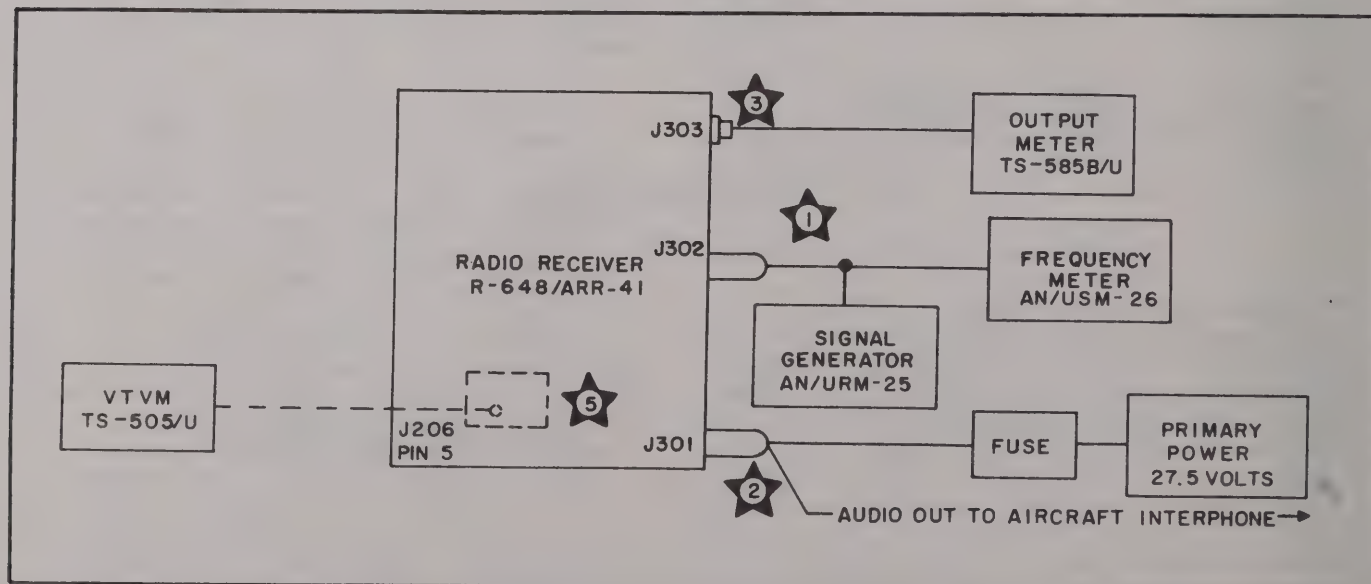

Figure 3-3. Radio Receiver R-648/ARR-41, Test Bench Setup
3-6. Before installation, a test of operation, over-all sensitivity, and calibration is advisable. Figure 3-3 illustrates the bench setup for these tests. The radio receiver cover must be removed to gain access to the assemblies and detail parts. A convenient means of mounting Radio Receiver R-648/ARR-41, the main component of Radio Receiving Set AN/ARR-41, is with the use of the Test Bench Cable Set AN/ARM-21
- Connect Radio Receiver R-648/ARR-41 in accordance with figure 3-3.